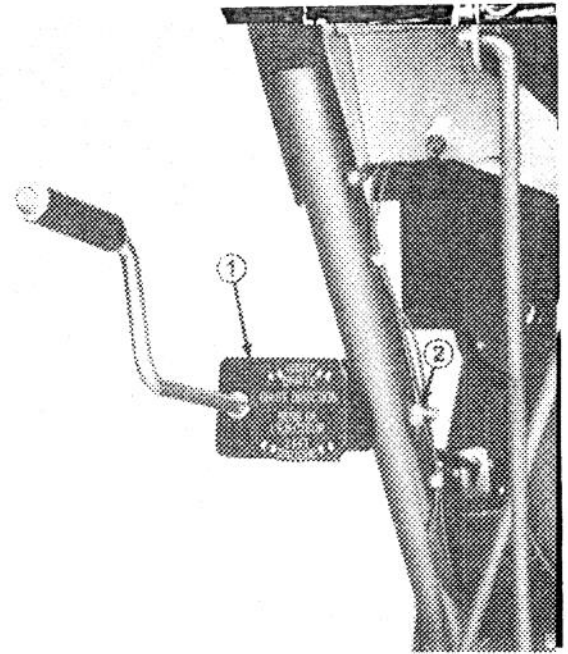
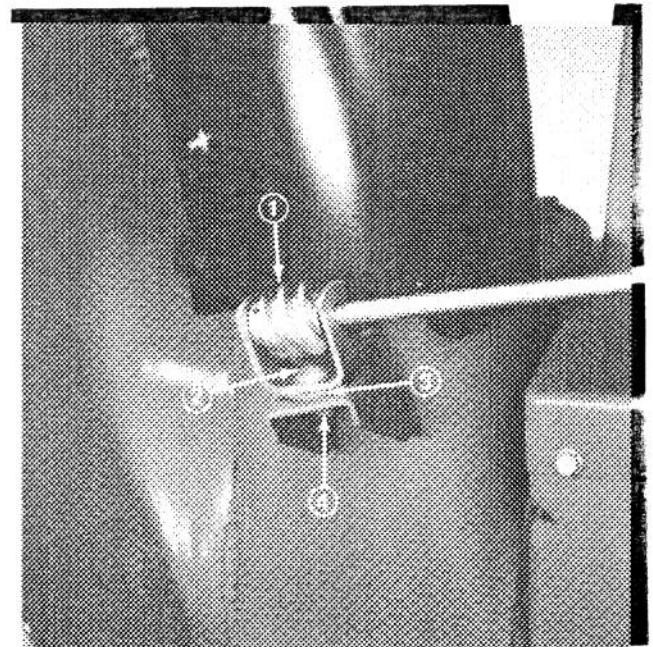

Figure 10
Figure 11
6. Install chute control bracket and rod against left side of handle with capscrew and locknut; but do not tighten the locknut (Fig. 10).
7. Apply No. 2 general purpose grease on worm gear. Next, mount worm bracket and gear on top of mounting flange with carriage bolt, pyramidal washer, flat washer and cone locknut (Fig. 11). Do not tighten locknut.
8. Push worm firmly against teeth in retaining ring; then tighten locknut (Fig. 11). Also tighten locknut holding chute control bracket against left handle (Fig. 10).